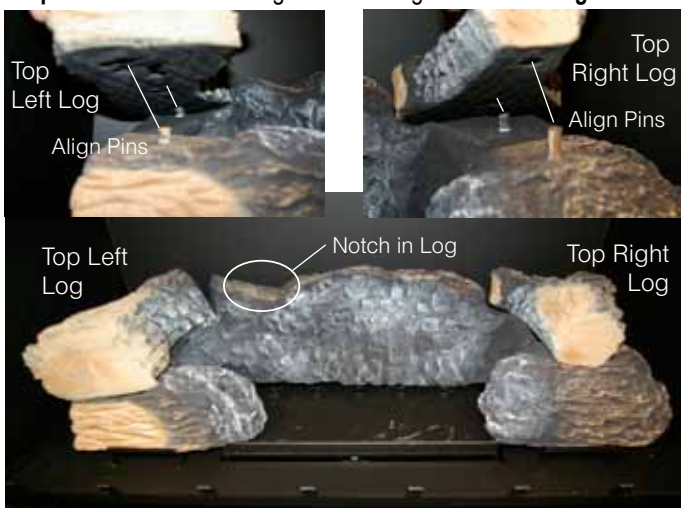

Figure 35c. Top Left / Right Log.
Step 4. Place the Top Right log as shown in **figure 35c**. using the (4) four alignment pins protruding from the top of the Right and Left Bottom Logs, as shown in **figure 35c**. With these pins align the Top Right and Left logs using the predetermined alignment holes
the underside of the logs, as shown above, **figure 35c** insets.
Step 5. Place the Centre Front log, **Figure 35d** below, as shown using the notch cast in the Bottom Rear log as shown in **figure 35c** above.